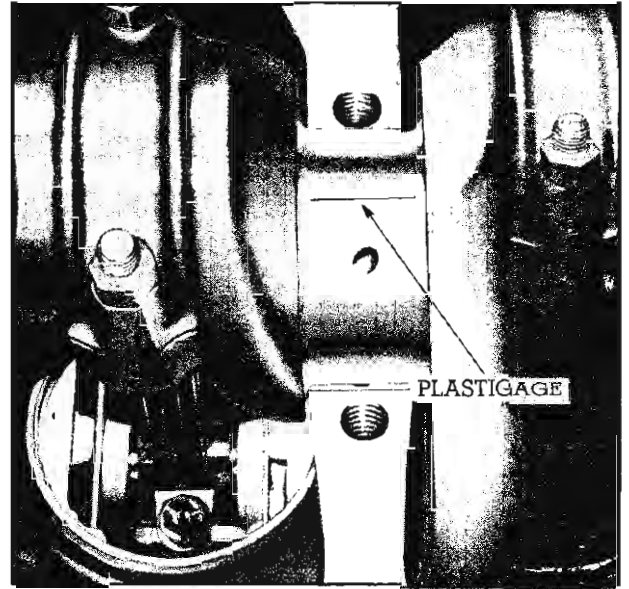

Fig. 44—Plastigage on Journal
2. Place a piece of Plastigage the full width of the bearing (parallel to the crankshaft) on the journal (fig. 44).